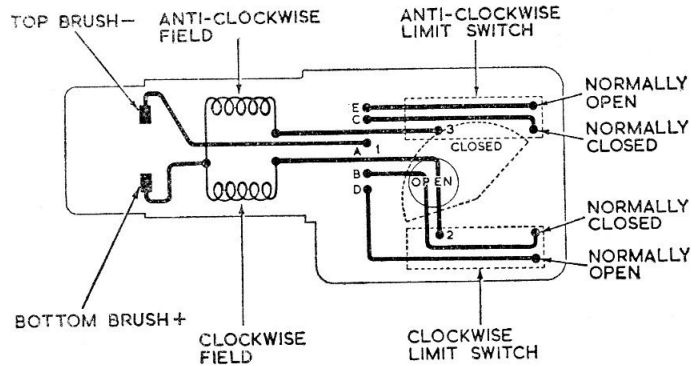

Fig. 3. Schematic wiring diagram
**20.** The limit switches are screwed to clamping plates, which are in turn secured to the gearbox housing by two screws. One of the screw holes in each clamping plate is slotted to provide adjustment for the switches. The switch operating arm is mounted on a pivot so that it is free to move between the two limit switch plungers. The end of the operating arm connects with the limit switch cam; this cam moves the operating arm to depress one switch plunger for one direction of rotation, and the other switch plunger for the opposite direction of rotation. The resultant effect is to open the circuit at the end of either direction of the output shaft. The normally open contacts of the limit switches are wired to the Breeze plug for use with indicating warning circuits. A schematic wiring diagram is shown (fig. 3).